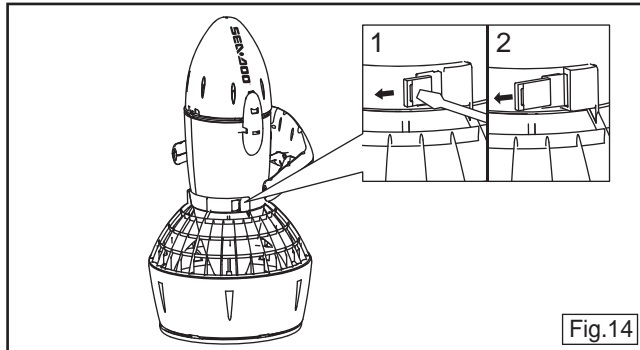

Fig.14
3. Insert a screw driver as shown in figure 14 to remove the two grille pins.